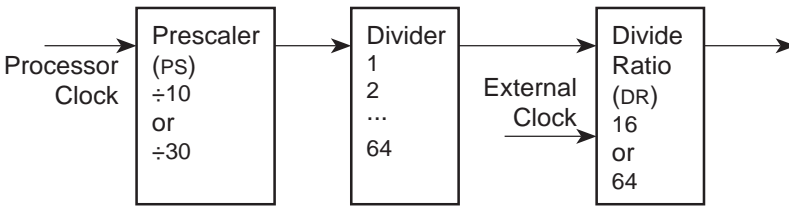

Figure 3-22. Z180 Baud-Rate Generator
The prescaler (PS), the divide ratio (DR), and the SS bits form a baud-rate generator, as shown in Figure 3-22.